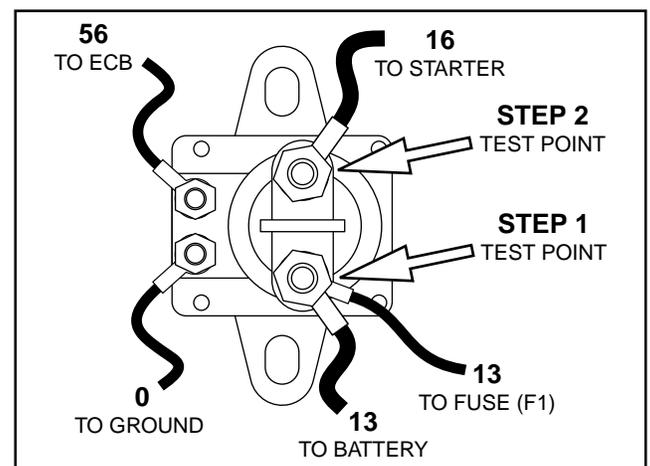
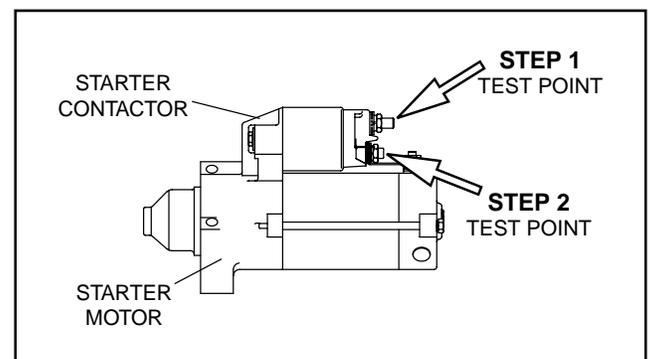

Figure 8. The Starter Contactor (Single Cylinder Units)
Figure 9. The Starter Contactor (V-twin Units)
2. Connect the positive (+) meter test lead to the starter contactor stud to which the starter motor cable attaches (see Figure 8 or Figure 9). Connect the common (-) test lead to frame ground.